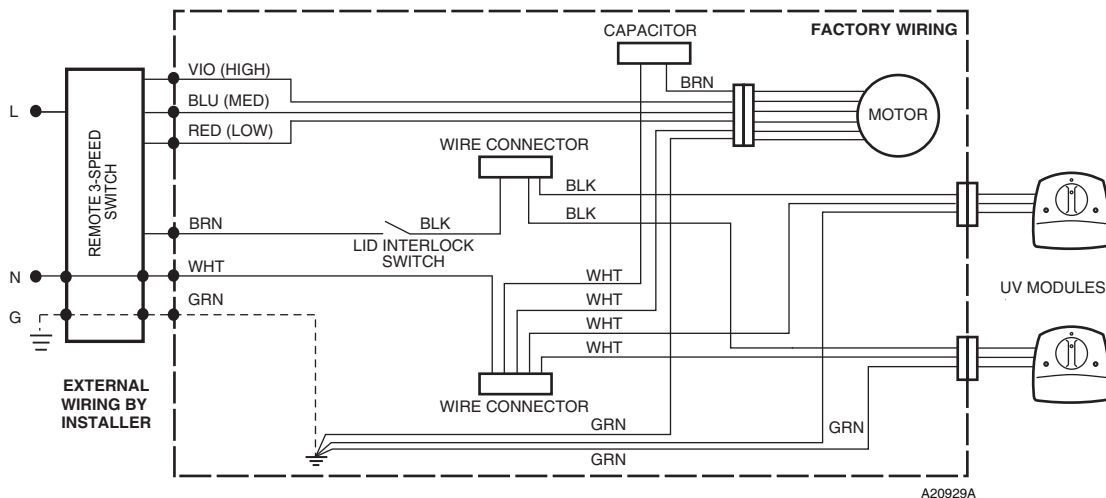

Fig. 3. Typical F111U 120V, 60 Hz wiring diagram.
3. Refer to Fig. 3 for typical electrical diagrams.